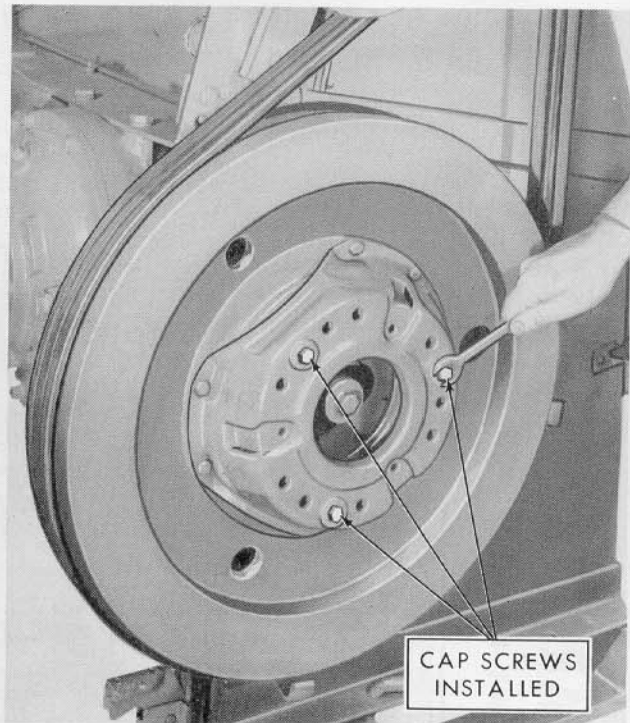

Figure 33
1. Insert the three $\frac{3}{8}$ " x $1\frac{3}{4}$ " cap screws with flat washers into the holes shown in Figure 33 and draw the clutch pressure plate away from the flywheel until the flywheel can be rotated, by hand, with some drag. This will prevent the clutch discs from adhering to the flywheel during storage. Refer to page 36, FLYWHEEL AND CLUTCH ASSEMBLY, for information when the baler is removed from storage.